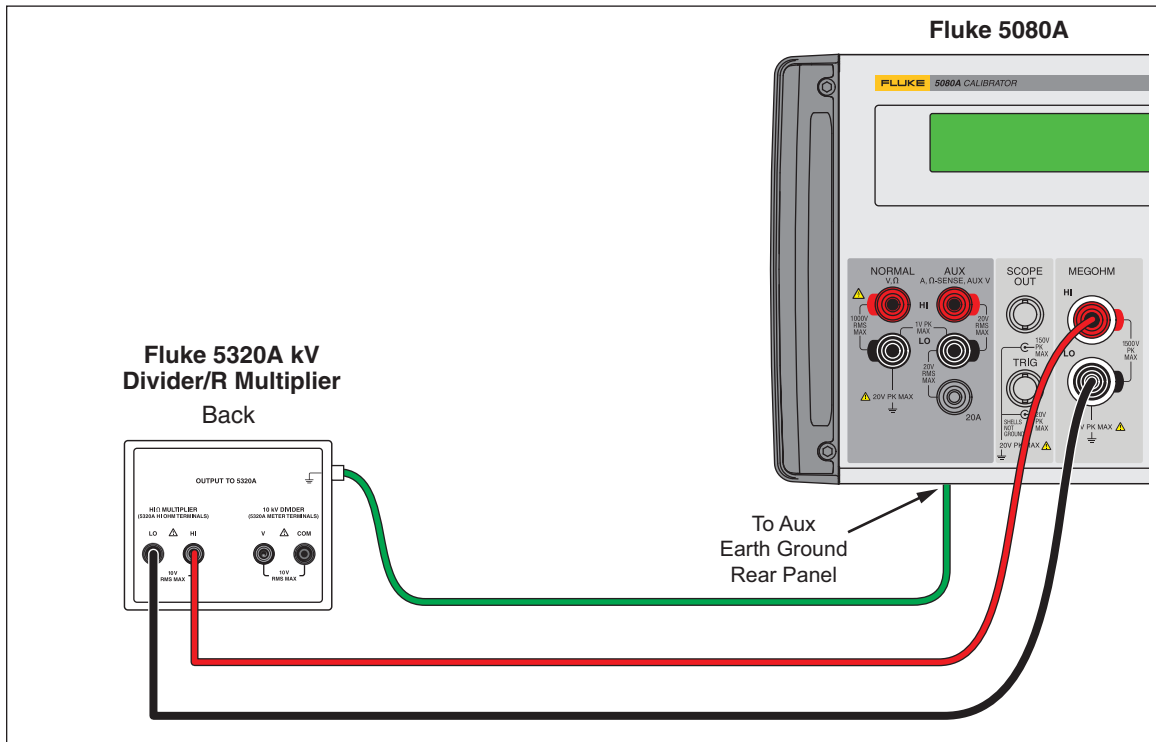

Figure 2. Multiplier to Calibrator Connections
3. Connect the multiplier to the Calibrator as shown in Figure 2.